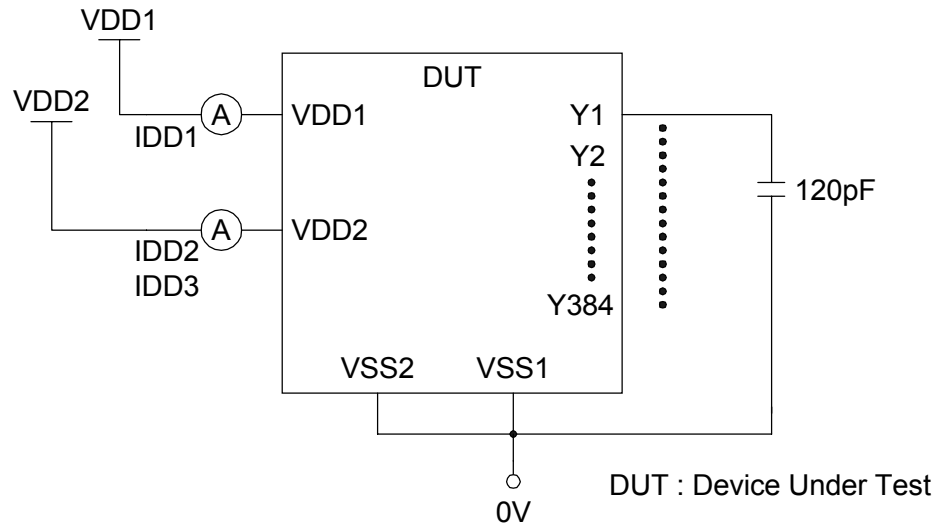

Figure 4. Yout Load Condition(IDD2&3)
6. Yout load condition : 120pF(tester load). Refer to Figure 4.
7. Yout load condition : No load(Yout open). Refer to Figure 4.